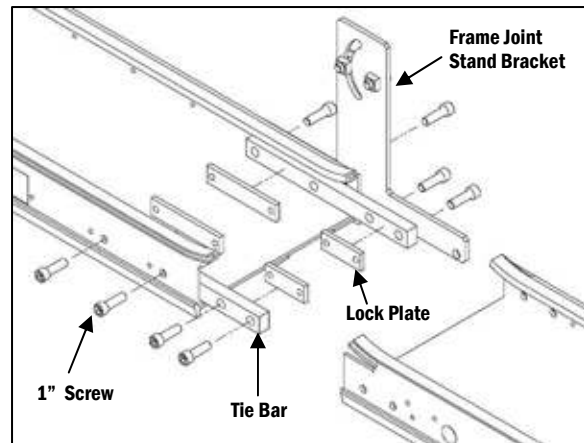

Figure 1
c. Slide the adjoining Frame into position, so the side of the frame is between the Frame Joint Stand Bracket and Tie Bar. Locate the Lock Plate to the inside of the Tie Bar, and insert a 5/16-18 x 1" long Socket Head Screw through the second hole from the end of the bracket until it engages in the Lock Plate (Figure 1).